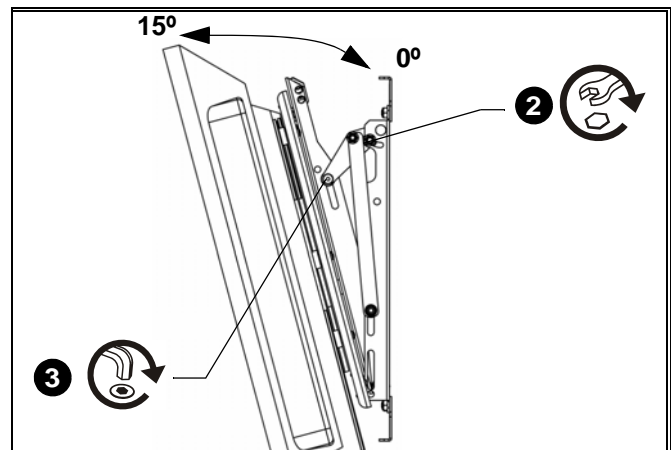

Figure 4
2. If desired, tighten the nut using a 7/16" wrench to increase the amount of tension needed to hold the mounting system in that position. (See Figure 4)
3. If necessary, use a 5/32" hex key to tighten hex head screw. (See Figure 4)